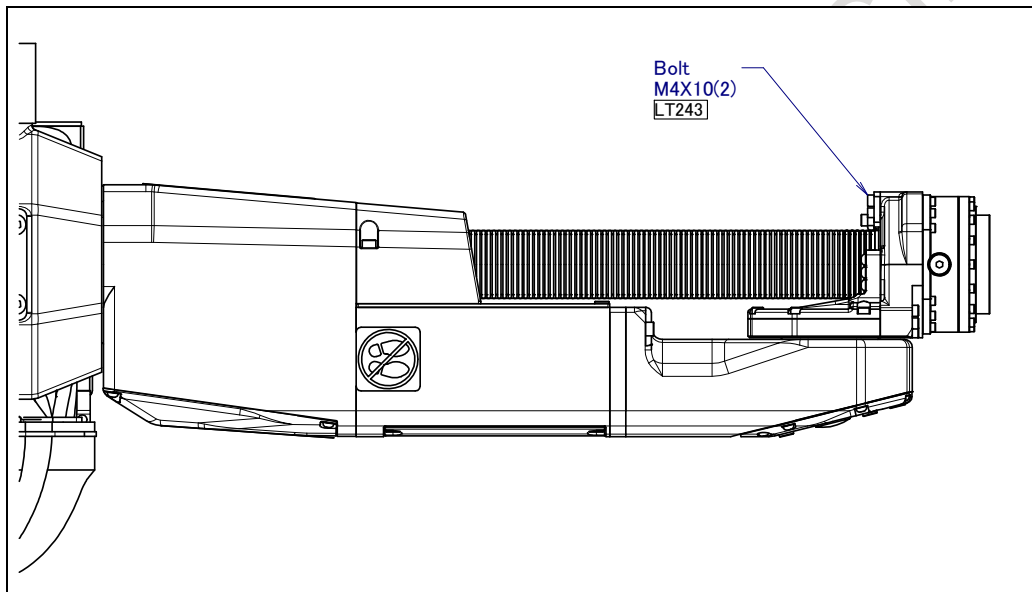

Fig. 6.19 (a) Replacing the M/H conduit (1/2)
- 2 Remove M4 x 10 bolts (2 pcs) in Fig. 6.19 (a) and remove unit of M/H conduit.
- 3 Attach new M/H conduit applying reverse sequence. In this time, according to Fig. 6.19 (a) apply LOCTITE 243 to internal thread and tighten by regulated torque. Assemble them while paying attention that circumference of adapter does not interfere inside of out shaft of J6 hollow part. (Otherwise abnormal noise occurs.) Confirm there is a clearance between them. Pay attention that ring does not protrude from circumference of adapter, too.